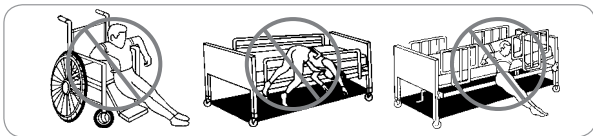

Fig. 22
- **ALWAYS use Hospital Bed Safety Workgroup (HBSW*) compliant bed side rails. Use gap fillers to reduce the risk that patient's/resident's body or limbs may fit over, under, around, through or between rails (Fig. 22).**